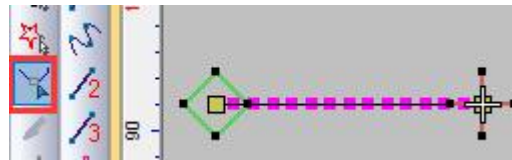

Figure 2
2. Click "Plastic" to see the starting and ending points (as shown in Figure 2).